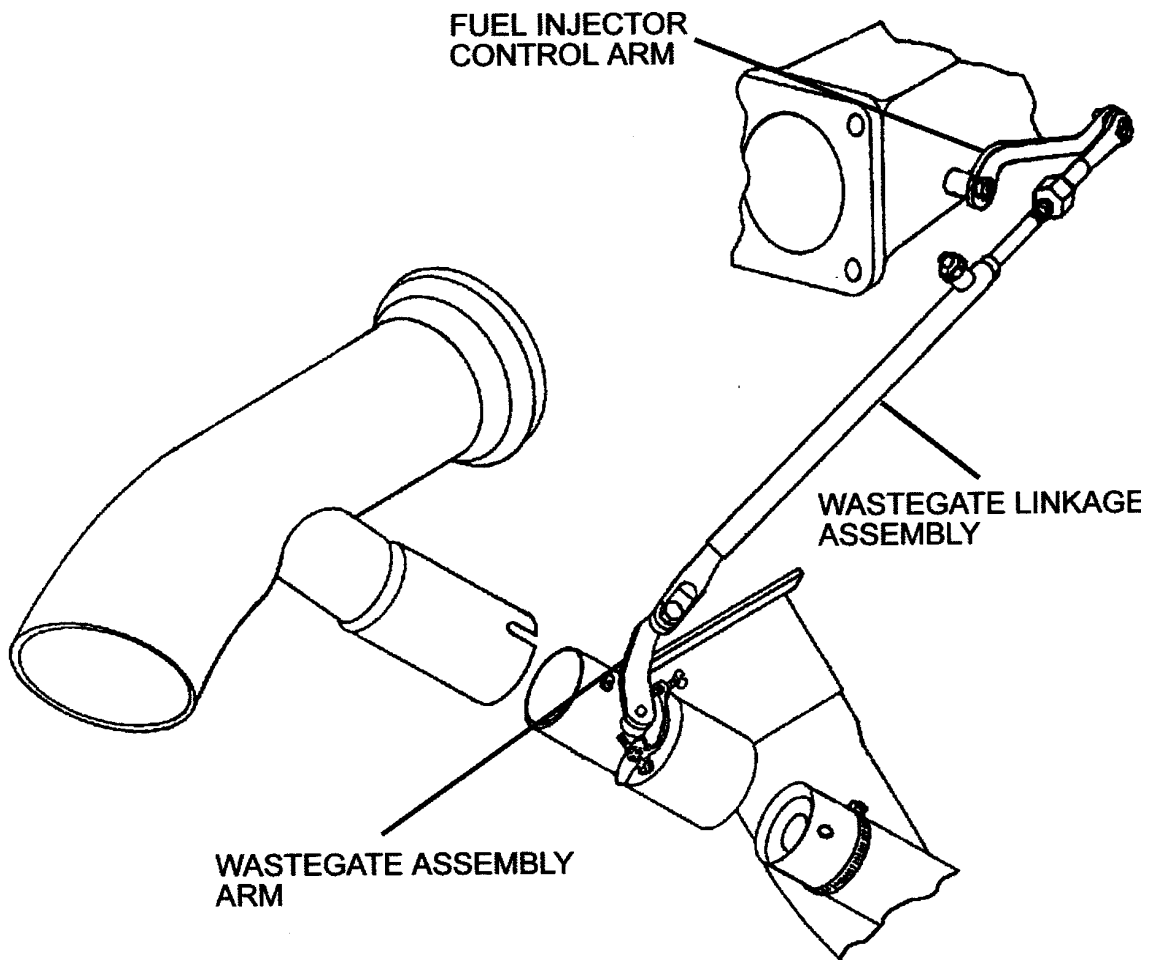

FIGURE 1
- a. Remove the wastegate linkage assembly from the aircraft (Refer to Figure 1).